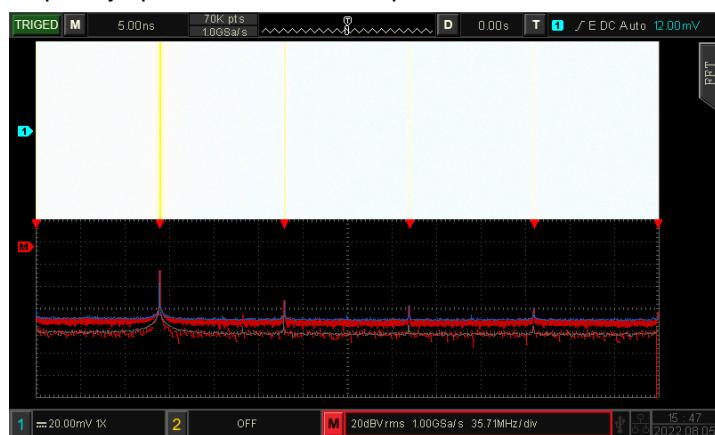

Figure 14-1
- d. Waterfall curve-2: frequency spectrum and waterfall curve are separate display in 2 window. It has record function, as shown in Figure 14-1.